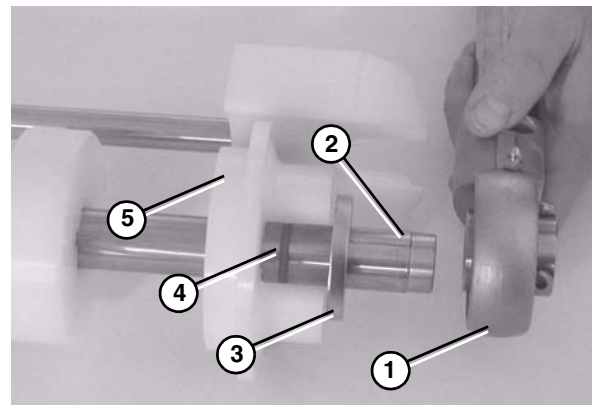

Figure 63
- Attach the flanged pucks (**Figure 63, item 5**), the O-rings (**Figure 63, item 4**), the washers (**Figure 63, item 3**) and the bearing shaft assemblies (**Figure 63, item 1**) onto the idler shaft (**Figure 63, item 2**).